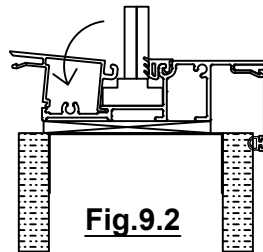

Fig.9.2
C. Install glass stops. See Fig. 9.2.